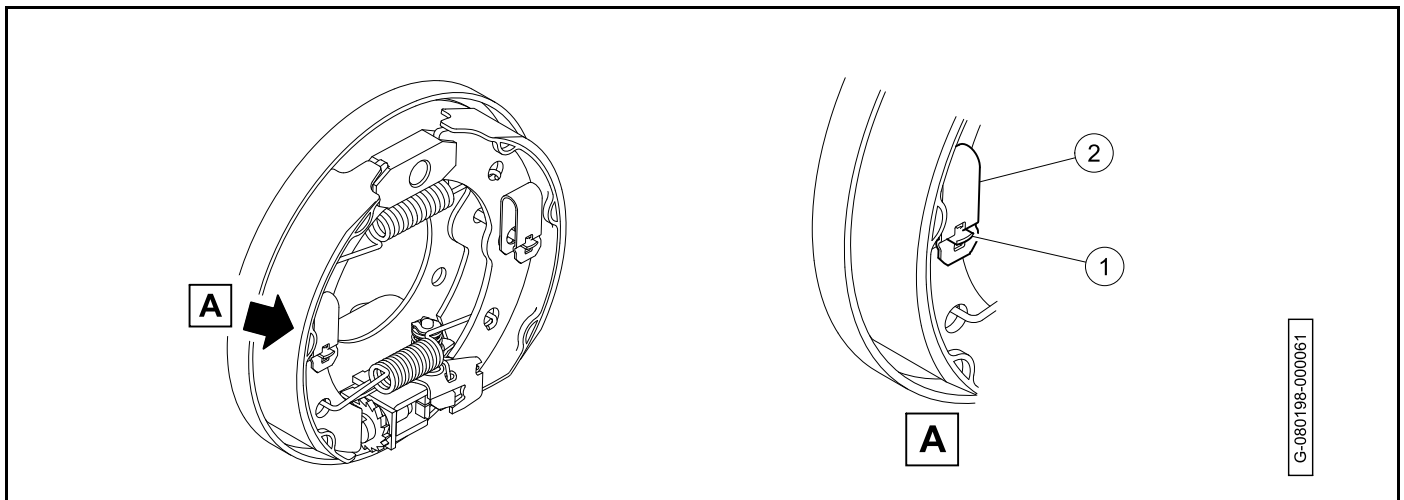

Figure 6-3
14. Using needle nose pliers, turn the retainer pin (1) 90° to remove the shoe retainer clip (2) (Figure 6-3).